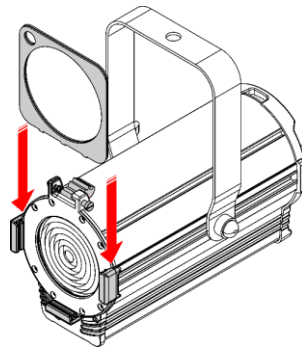

Fig. 13
- 03) Insert the color frame into the **color frame holders (04)** (see Fig. 13).